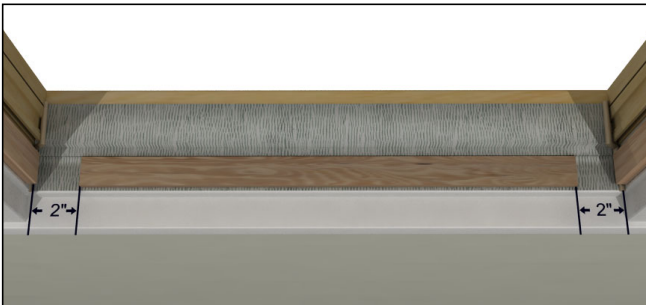

Figure 4
4. Apply blocking to the sill leaving a 2" (51) gap at each end. See figure 4.